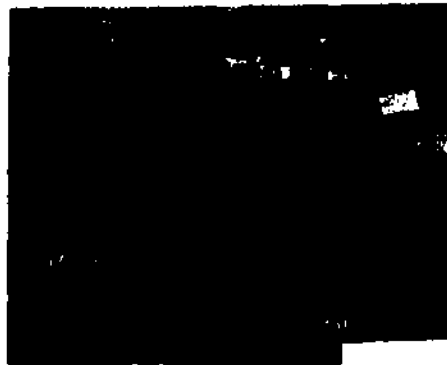

Fig 2-40. Installing sending unit.
b. **Replacement (fig 2-40).** Lift the sending unit from the tank and discard the gasket. Clean the gasket mounting surface, being careful to prevent dirt from falling in the tank. Position a new gasket on the tank and install the new sending unit by using the reverse of the removal procedures.